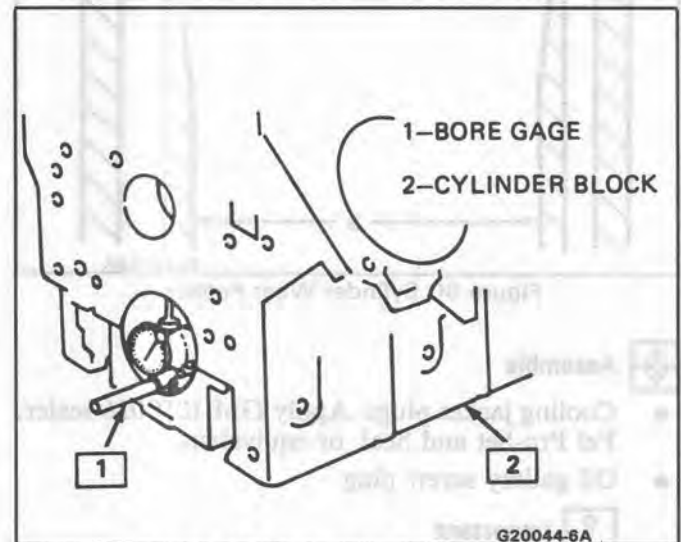

Figure 48 Measuring Bearing Bore
- Bearing bores. With a bore gage, measure concentricity and alignment (Figure 48)